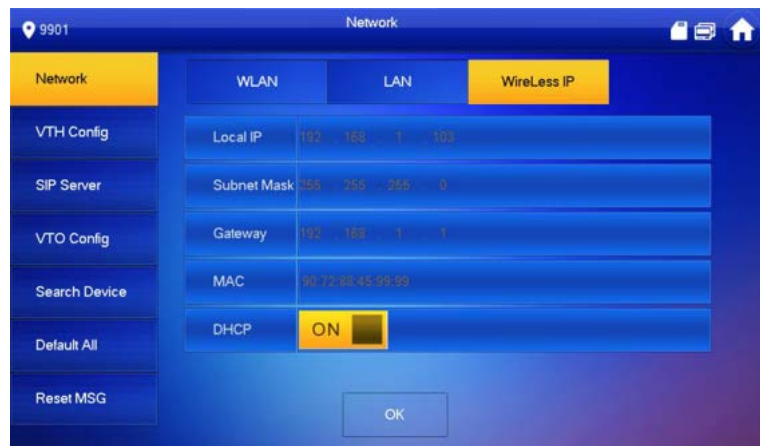

Figure 6-23
- ◇ At “WLAN” interface, select Wi-Fi, click “Wireless IP” tab, press ☐ OFF to enable DHCP function and obtain IP info automatically, as shown in Figure 6-23.